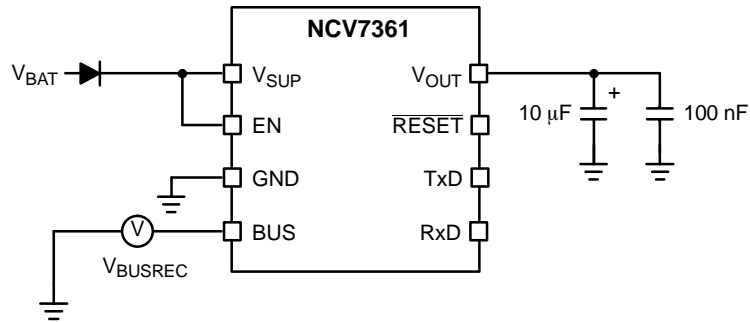

Figure 6. Test Circuit for Bus Voltage "Recessive" (V_{BUSREC})
7. See Figures 6, 7, and 8 for test setup.